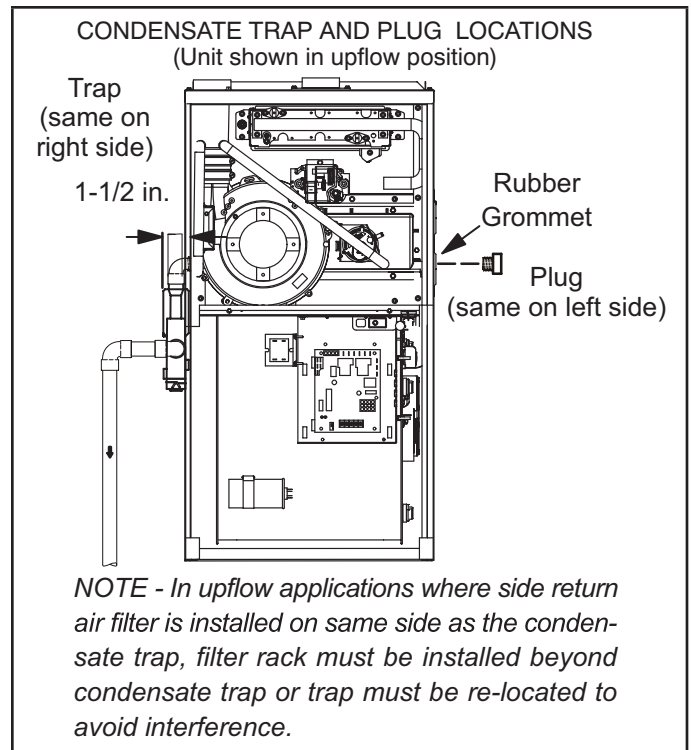
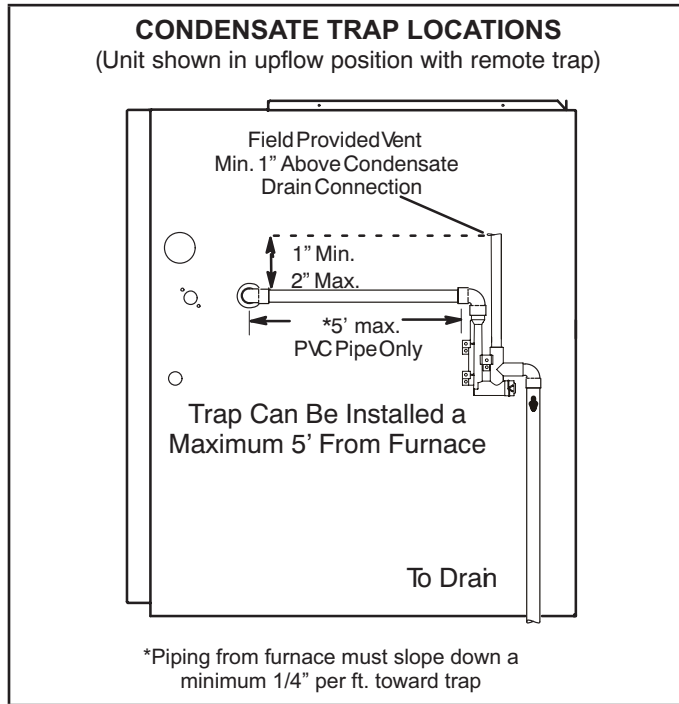
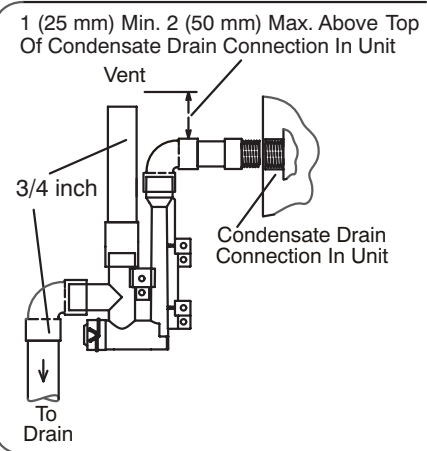

FIGURE 46
FIGURE 48
FIGURE 54
This unit is designed for either right- or left-side exit of condensate piping in upflow applications. In horizontal applications, the condensate trap must extend below the unit. An 8" service clearance is required for the condensate trap. Refer to FIGURE 46 and FIGURE 48 for condensate trap locations. FIGURE 54 shows trap assembly using 1/2" PVC or 3/4" PVC.
- 2 - Use a large flat head screw driver or a 1/2" drive socket extension and remove plug (FIGURE 46) from the cold end header box at the appropriate location on the side of the unit. Install provided 3/4 NPT street elbow fitting into cold end header box. Use Teflon tape or appropriate pipe dope.
- 3 - Install the cap over the clean out opening at the base of the trap. Secure with clamp. See FIGURE 54.
- 4 - Install drain trap using appropriate PVC fittings, glue all joints. Glue the provided drain trap as shown in FIGURE 54. Route the condensate line to an open drain. Condensate line must maintain a 1/4" downward slope from the furnace to the drain.